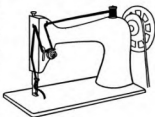

FIGURE 73
**16. Threading the Machine** (Figure 73). — The balance wheel is turned so that the needle is at the highest point. The spool of thread is placed on a spool pin, and the thread goes over the thread guide hook above the tension disc and around the tension disc from right to left and over the small wire spring; then under the thread regulator hook at the left of the tension disc, from right to left, so that the wire guide will move up and down when the thread is drawn tightly, through the take-up lever that moves up and down; then down around the small eyelet on the side of the face plate into the lower wire guide above the needle. Thread the needle and draw the thread under and behind the presser foot. The stitch is formed by looping the upper thread around the lower thread and pulling both threads tightly and evenly.